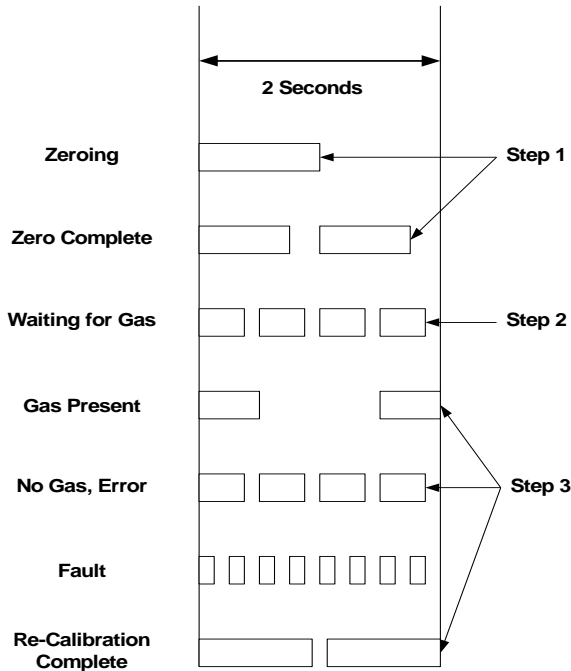

Figure 7: IR400 Zero Switch / LED During Zeroing and Calibration
- When the unit has finished zeroing, the LED will turn on and flash off quickly once per second for 30 seconds (*Zero Complete* in Figure 7).